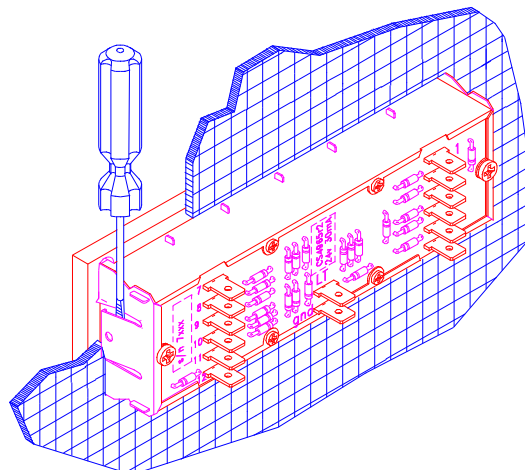

Figure 3 Using a screwdriver to seat locking tabs
3. **Important:** The wiring must be supported at a distance of 150mm or less from the connectors (using cable ties or similar) to prevent vibration from fatiguing the wires where they enter the connector. Depending on rear panel access, it may be easier to attach the wiring to the indicator before insertion into the panel. The wiring should be tested before insertion. The indicator can then be pressed into the panel (first check the legend orientation) by pressing firmly on each end of the black Aluminium bezel until each end clicks. Press on the back of the indicator to ensure it is secure; it may be necessary to insert a screwdriver under each securing tab to ensure it locks (see figure 3). Use care to avoid bending the anti-rattle tabs.